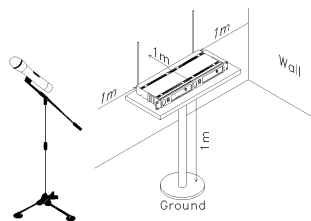

Figure 8
5. Make sure that the system performs correctly by placing the system away from noise sources. Place the receiver at least one meter above the ground and one meter away from noise sources. Place the microphone at least one meter away from the receiving antenna, as shown in Figure 8.